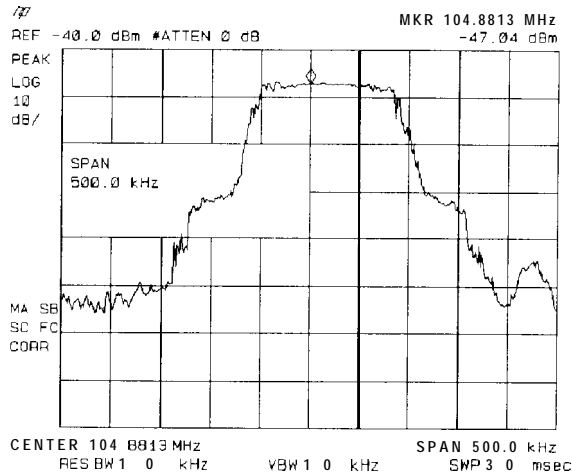

Figure 3-10. Viewing an Unstable Signal Using Max Hold A
- To measure the excursion of the signal, press **[TRACE]** then **MAX HOLD A**. As the signal varies, maximum hold maintains the maximum responses of the input signal, as shown in Figure 3-10.